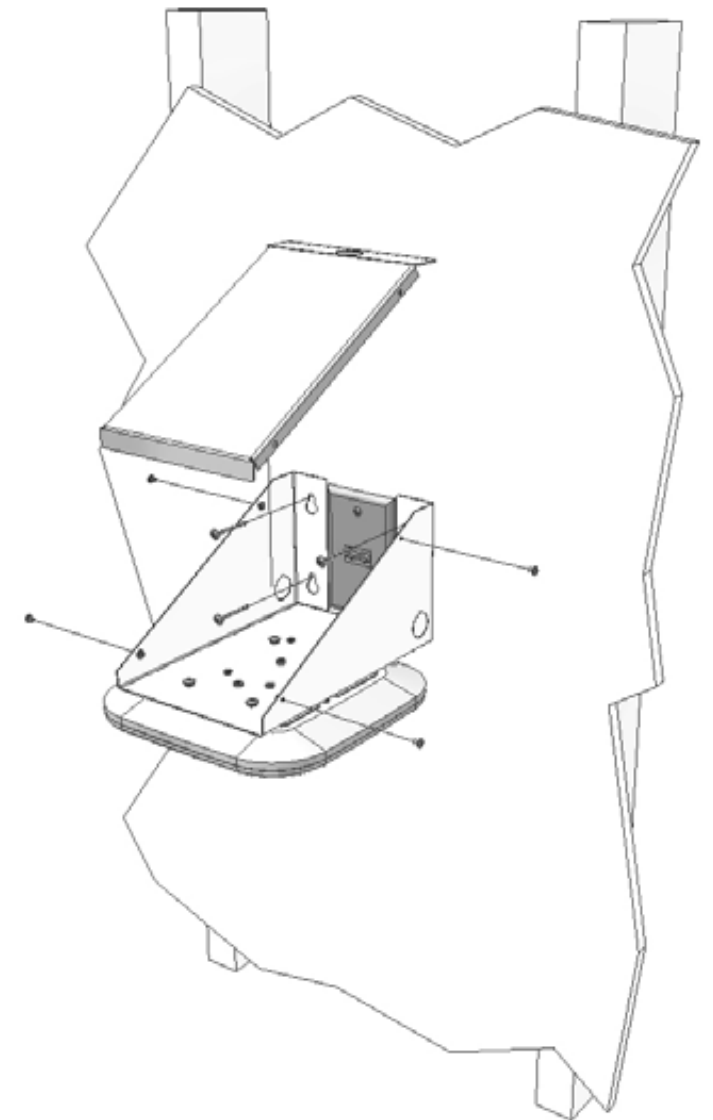

Figure 2
Step 4 – Place the mount on the wall where it is to be installed (it is recommended that you mount directly to a stud if possible) and mark the screw locations. Use a minimum of two (2) #10 x 2" or larger screws (not included) to secure the mount in place. However, if there is no stud at the mounting location, it is recommended that you use a minimum of 4 suitable anchors to secure the mount in place (Figure 2).
Step 7 – Replace the cover and tighten the (4) cover screws to the mount. Do not over tighten. Installation is now complete.